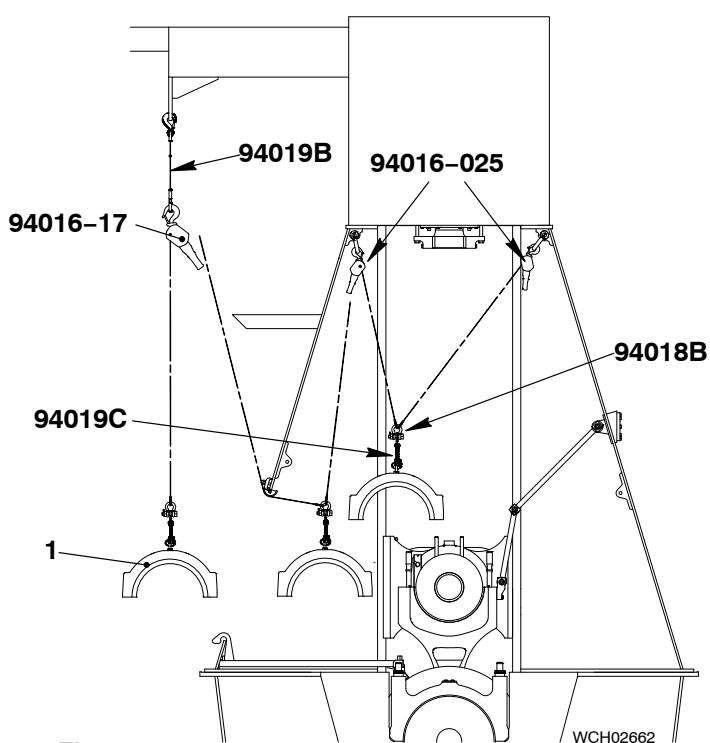

Fig. 4
- 10) Attach the chain (94019B, Fig. 4) to the gallery.
- 15) Operate the manual ratchets (94016-017 and 94016-025) to move the bearing cover (1) to the fuel side.
- 16) Lower the bearing cover (1) on to an applicable surface.
- 17) If necessary, remove the chain (94019C) from the bearing cover (1).